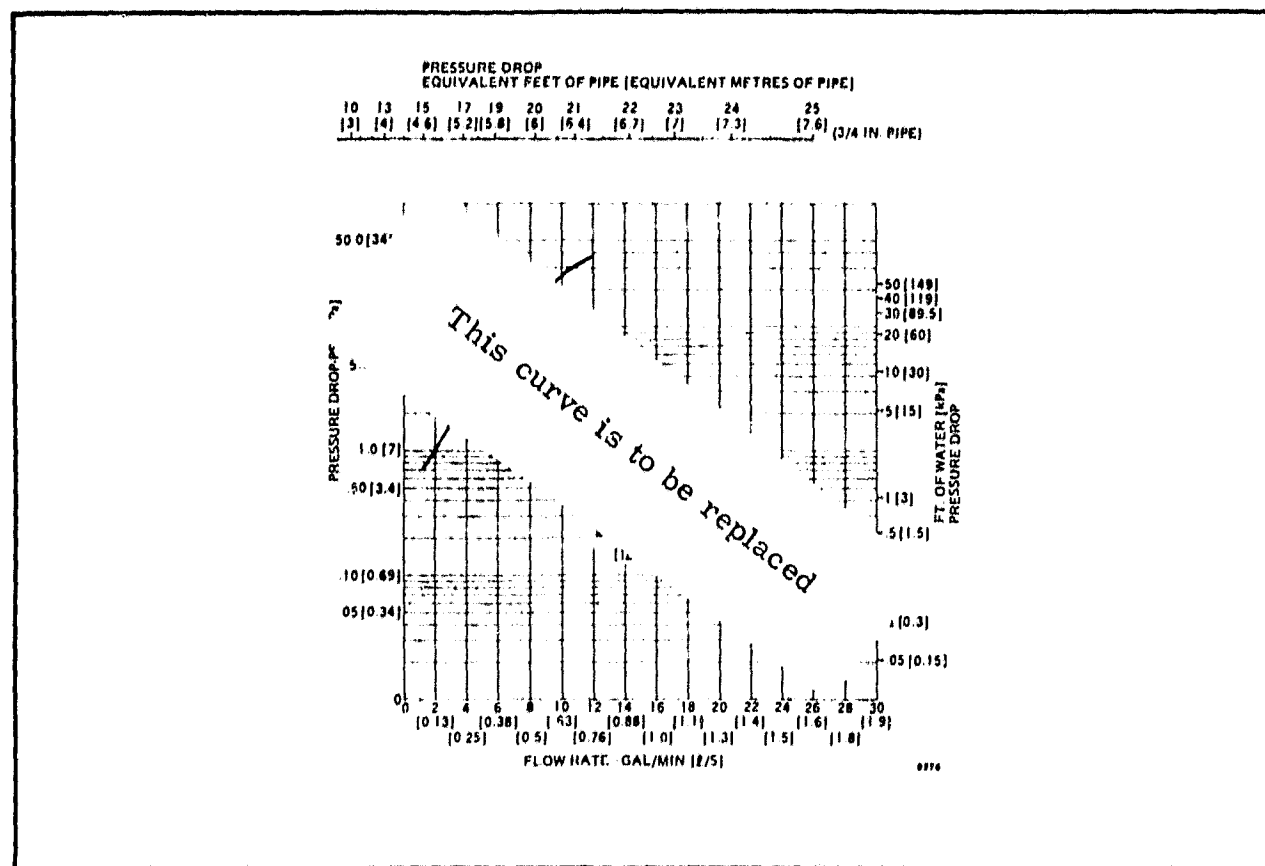

FIG. 2-FLOW CHARACTERISTICS OF Y534A DUAL DIVERTING VALVES.
1. Locate the flow rate at the bottom of the graph in Fig. 2.